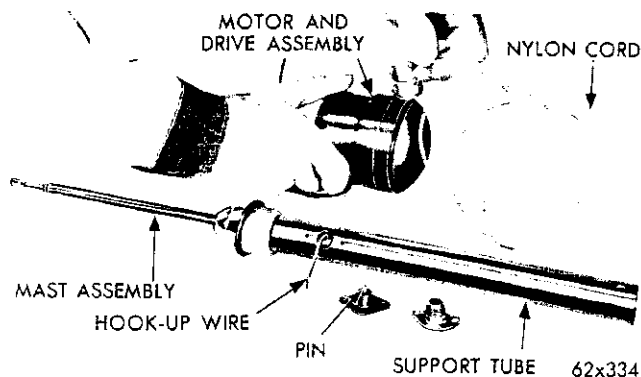

Fig. 15—Assembling Power Antenna
(1) If the original mast assembly is reused, thread the "nylon cord" through the "bottom insulator" with the tubular projection down (Fig. 15). Then thread the "nylon cord" through the "water seal washer".